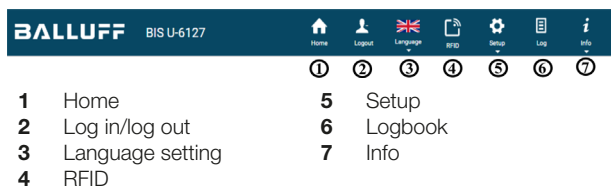

Fig. 7-4: Main menu
Fig. 7-4 shows the menu bar of the web server with seven main menus, which are described below.
If the login was successful, the field (2) of the main menu shown in Fig. 7-4 displays the text *LOG OUT*.
The RFID menu can be called up via the main menu bar (see Fig. 7-4 on page 33).